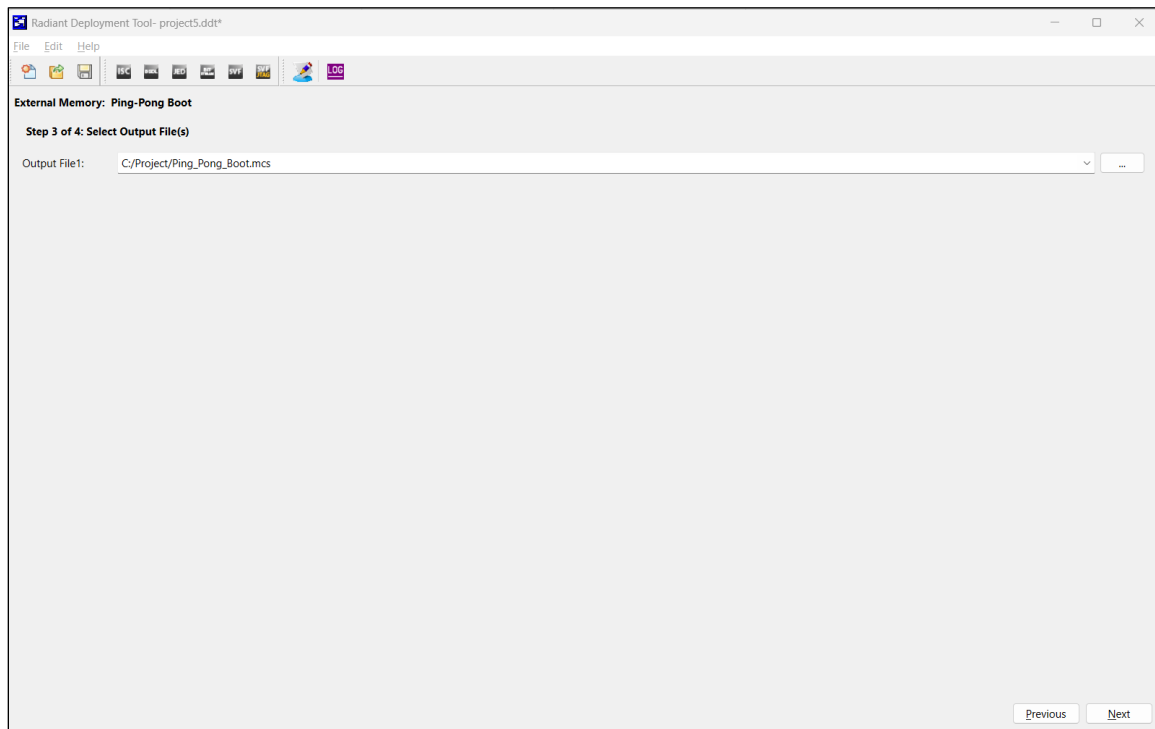

Figure 7.11. Select Output File(s) Window
Step 3 of 4: Select Output File(s) window (Figure 7.11)